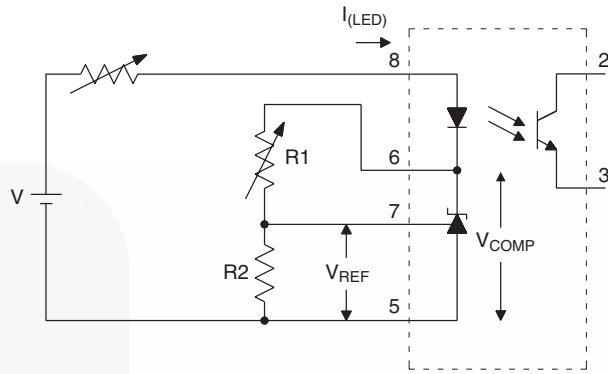

Figure 2.  $\Delta V_{REF} / \Delta V_{COMP}$  Test Circuit
5. The dynamic impedance is defined as |ZOUT| = ΔVCOMP / ΔILED. When the device is operating with two external resistors (see Figure 2), the total dynamic impedance of the circuit is given by: